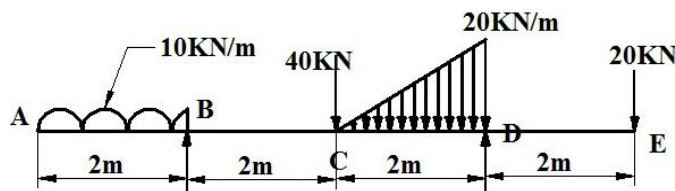

Figure 23
13. Draw shear force and bending moment diagram for overhanging beam as shown in *Figure 23* and locate the point of contra flexure.